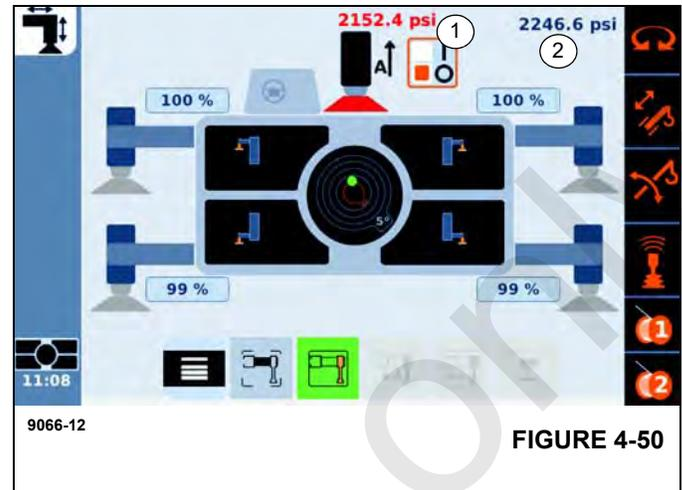

FIGURE 4-50
7. Extend CFS until movement ceases. **NOTE:** You will also see an increase in the CFS pressure (Figure 4-50).
2. The ODM CFS Overloaded ALERT will be on solid RED when the CFS is greater than 1000 psi (1), (Figure 4-50). The ALERT will be ON Flashing when the pressure is greater than 4500 psi and the ODM not on outrigger screen. Operator should reduce CFS pressure using means described in Step 1 above.
3. The Outrigger Circuit Supply Pressure value shows the pressure of the entire circuit (beams and jacks of all outriggers, including the CFS) and will be shown on the Outrigger Screen as shown in (2), (Figure 4-50).
**NOTE:** Cribbing Mode may be canceled by the user at any time by scrolling the selection to (1), (Figure 4-50) and pressing OK. Cribbing Mode reverts to inactive when the user exits the outrigger operating screen.